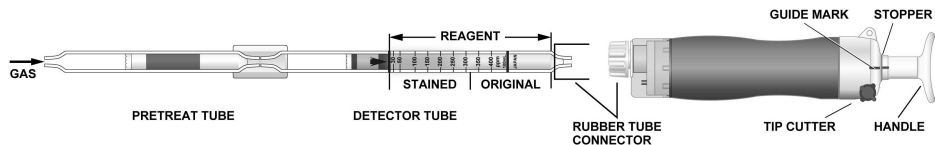

Fig.1
- ① Break both ends of the detector tube (II) and pretreat tube (I), and connect each end of the detector tube (II) and pretreat tube (I) with the connecting tube as shown in Fig.1.
- ② Insert the detector tube into the aspirating pump securely as shown in Fig.1. (Arrow mark shall point to the pump.)
- ③ Align the guide marks on the shaft and stopper of the aspirating pump.
- ④ Pull the pump handle at a full stroke until it locks and wait for 1.5 minutes or until the completion of sampling is confirmed with the flow indicator of the pump. (See descriptions about the flow indicator in the instruction manual of the pump.)
- ⑤ On completion of sampling, read the scale at the maximum point of the stained layer.
- ⑥ When concentrations are below the scale range, 2 pump strokes can be used to determine these lower concentrations. In case of 2 pump strokes, push back the handle without removing the detector tube from the rubber tube connector so that air in the pump will be discharged perfectly. Then repeat the step ③~⑤ once more.
- ⑦ In case of 2 pump strokes, actual concentration is half of the reading value.